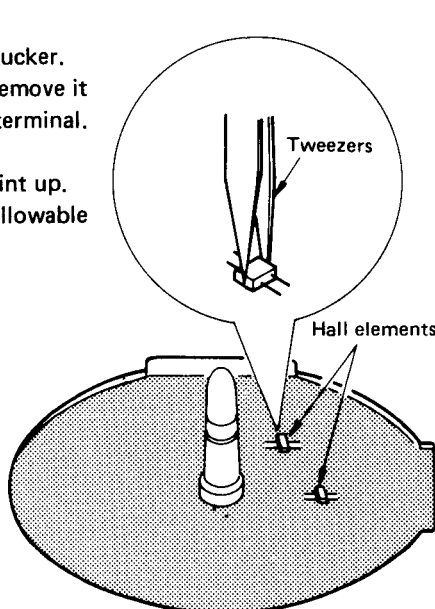

Fig. 7
3. Hold the Hall element with a tweezers and remove it while touching the soldering iron to the terminal. (Fig. 7)